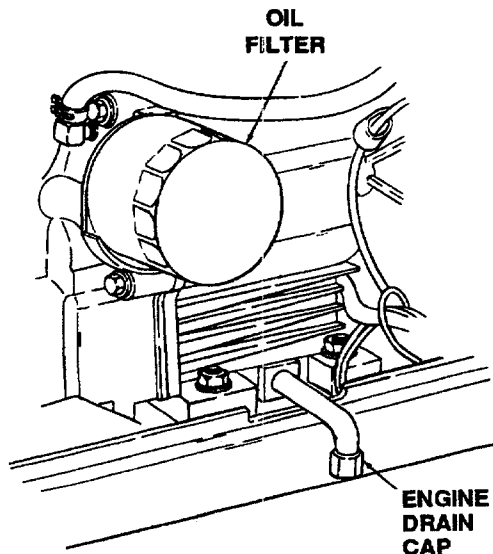

Figure 20
The oil filter is located behind the left side panel and is mounted on the engine. (See Figure 20.)
2. Clean around the oil drain cap and remove the cap from the oil drain tube. Collect the old oil in an adequate container. (Refer to Figure 20.)